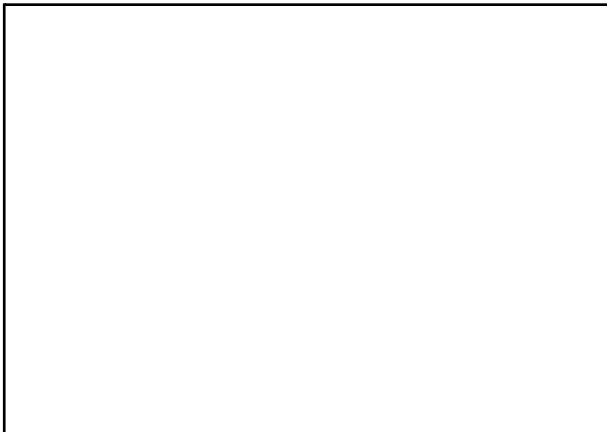

Fig. 4
- heating valve (12, Fig. 4).
This can be determined by opening the engine hood (Fig. 4). The heating valve is mounted at the rear wall of the driver's cab. The selection lever at the heating valve must be in the lower, "closed" position.